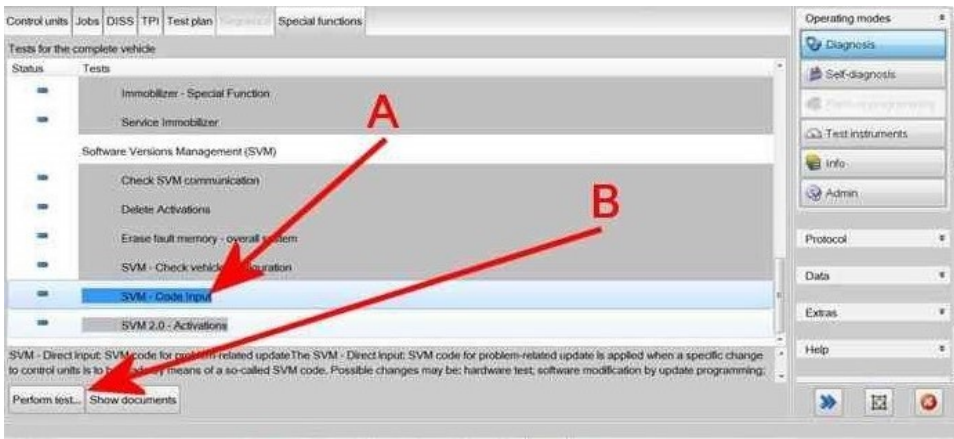

Figure 13
Referring to Figure 13 - Within the Special functions tab select SVM - Code Input (A) then select Perform test (B)